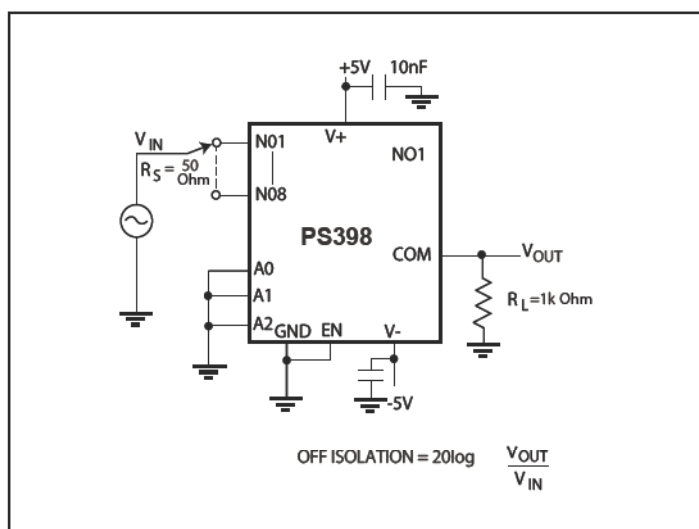

Figure 5. Off Isolation
7. Off Isolation = $20 \log_{10} V_{\text{COM}} / V_{\text{NO}}$. See Figure 5.
- Off Isolation = $20\log_{10} V_{\text{COM}} / V_{\text{NO}}$. See Figure 5.